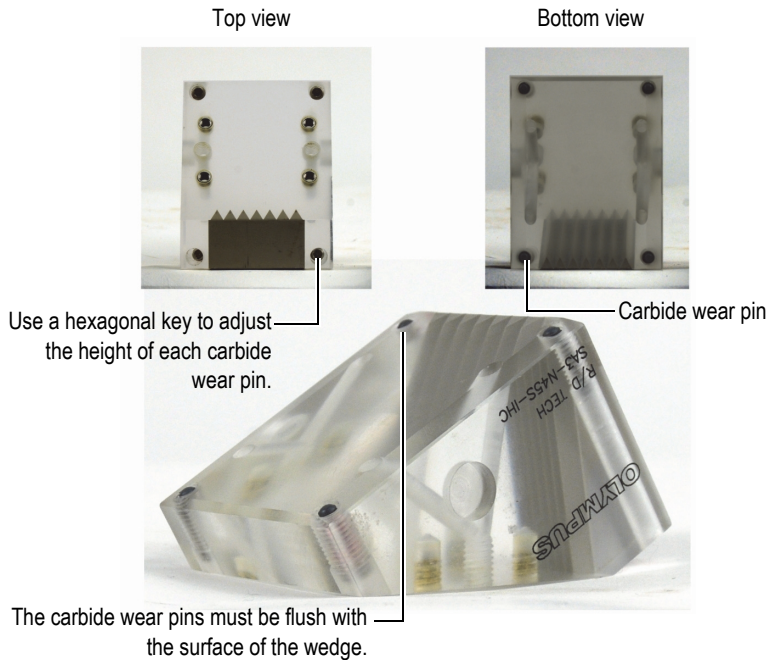

Figure 7-2 Carbide wear pin adjustment
Wedges are designed to hold a transducer or a phased array probe in order to ensure an adequate ultrasonic diffusion through the surface being inspected, and to direct the couplant flow correctly. To limit wear to the wedge, carbide wear pins can be inserted at each corner of the contact surface of the wedge (see Figure 7-2 on page 112).
2. Use a hexagonal key to adjust the height of the carbide wear pins on each installed wedge. Ensure that the top of each pin is flush to the surface of the wedge (see Figure 7-2 on page 112).